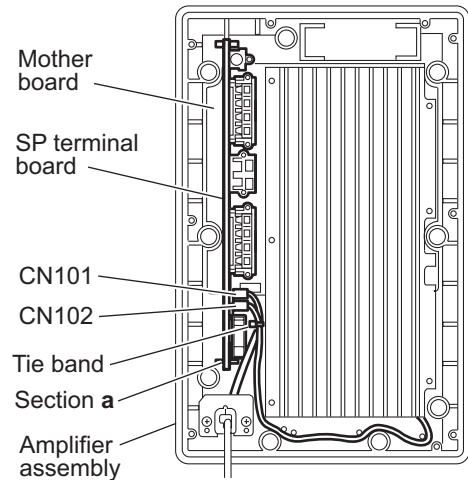

Fig.4
3.3.3 Removing the SP terminal board (See Figs.4 and 5)
- (1) From the top side of the amplifier assembly, disconnect the card wires from the connectors **CN101** and **CN102** on the mother board (See Figs.4 and 5.)